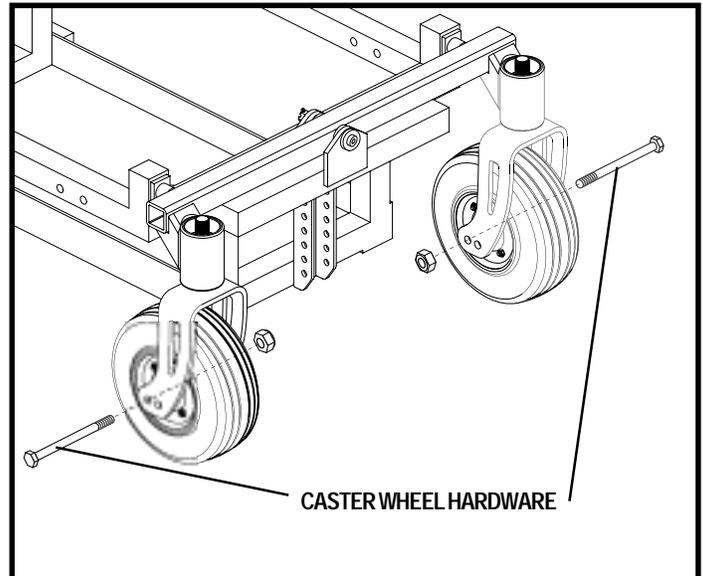

Figure 19. Caster Wheels
1. Remove the hardware that attaches the caster wheel to the caster fork. See figure 19.